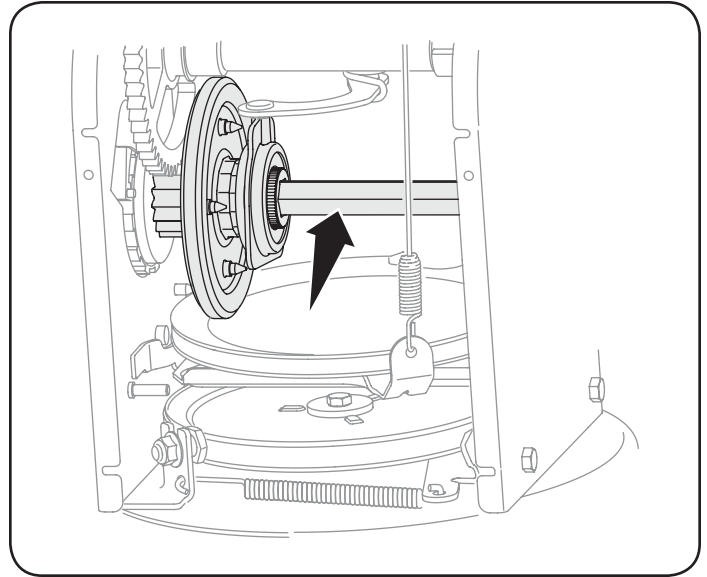

Figure 25
4. Apply a light coating of engine oil (or 3-in-1 oil) to the hex shaft. See Figure 25.